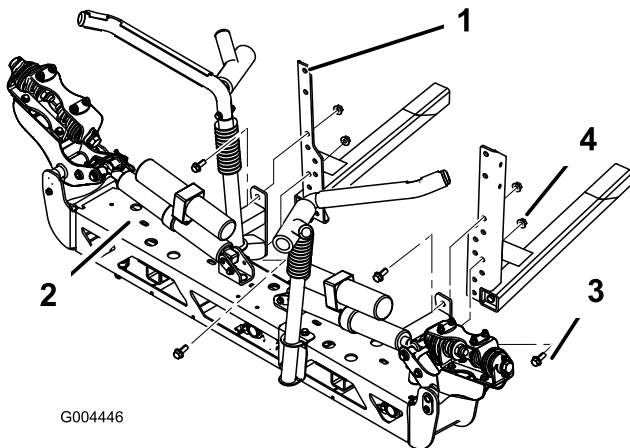

Figure 14
- Install center boom assembly to the uprights using four flange bolts ($1/2 \times 1-1/4$ inches) and four flange nuts ($1/2$ inch) (Figure 14).